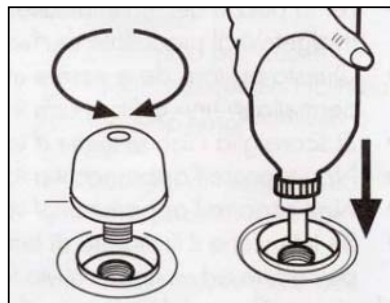
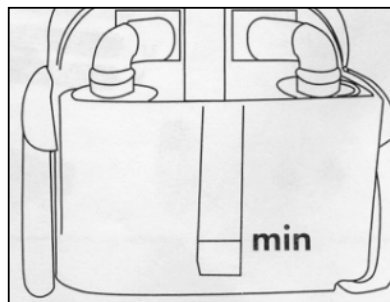

Fig. 2
Fig. 3
- Fill the bottle (K) with Distilled or Tap Water.
- Apply downward pressure to the boiler cap (8) and unscrew by turning it anticlockwise; Fig 2.
- Turn the fill water bottle (K) upside down on the boiler opening and apply downward pressure on the bottle to fill the boiler; Fig 2.
- Screw back the boiler cap (8) by turning it clockwise while simultaneously applying downward pressure; ensure the boiler cap is securely tight.
- Remove the water tank cover (5), fill the water tank (1) with 34 ounces of tap water and lock the cover back into locked position. This operation will ensure that the air is filtered and any impurities (Dust, Mites, etc.) are trapped. For proper use, do not exceed the "Minimum" water level shown on the tank. Fig 3.